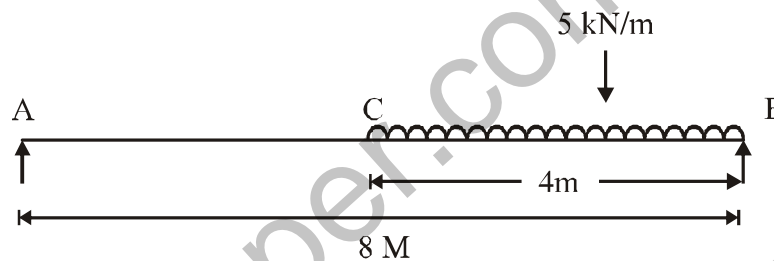

Fig. 2
8. A beam AB of 8m span is simply supported at the ends and is loaded as shown in **Fig. 2**. Determine :